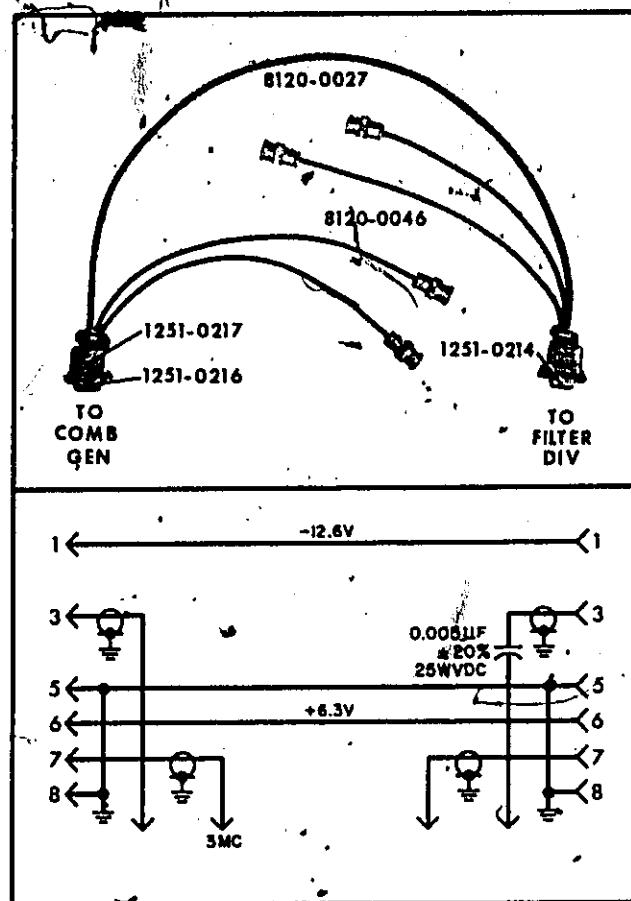

Figure 5-4. Extension Cable used to Check Comb Generator and Filter/Divider Modules
5-44. **24 AND 30 TO 39 MC OUTPUTS.** Fabricate an extension cable as shown in Figure 5-4. Verify that the output is tuned to the correct frequency with an electronic counter and a video amplifier (5245L & 5261A). Use the extension cable to make the connection between the comb generator and the video amplifier, counter combination. The output level is normally about 14 mv.
5-48. Connect an RF Voltmeter (411A) with an 11048B 50-ohm feed-thru termination to the 39 Mc connector A5 of the comb generator using the special connector shown in Figure 5-4 and a 50-ohm coax. Tune L1 for maximum output. Input Amplifier/Buffer module A1 must be removed. Be sure to keep the 1 Mc connection intact from the Crystal Filter to the Comb Generator.
a. Amplifier #1 must have 20 db of gain and the extension cable of Figure 5-4 is used to make the connection from the Comb Generator module to the amplifier input cable.
a. Remove the module to be checked from the 5110A and supply it with power using the fabricated cable shown in Figure 5-4.
a. Remove the Filter/Divider Module from the instrument and connect it to its normal input with the extension cable diagrammed in Figure 5-4. Remove cover from Filter/Divider module.
b. Connect power to it by using the extension cable (Figure 5-4) plugged into the Comb Generator connector normally occupied by the Filter/Divider.
a. Connect Filter to its normal input with the extension cable diagrammed in Figure 5-4. Remove cover from module.